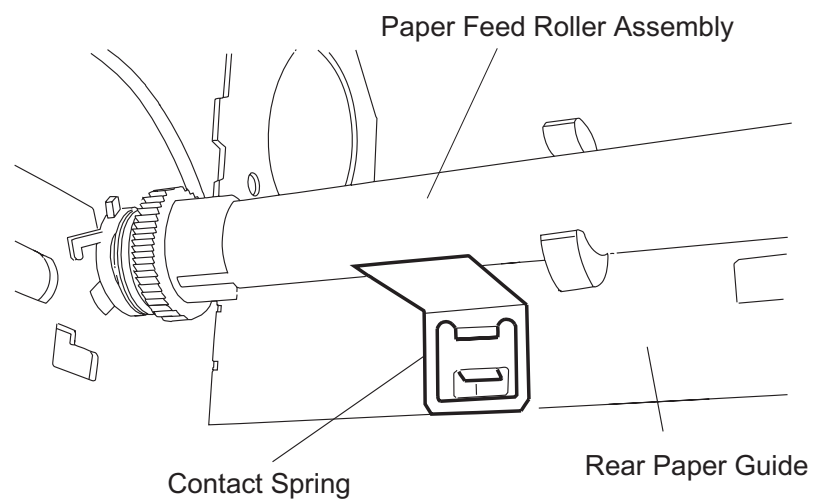

Figure 3-70. Contact Spring Location
- Make sure the contact spring on the left is correctly mounted onto the bottom frame, as shown in Figure 3-70.